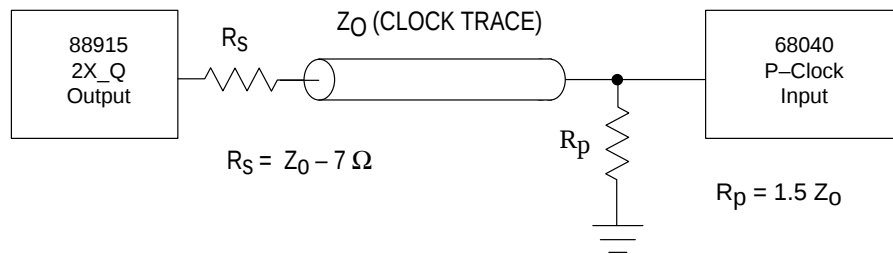

Figure 1. MC68040 P-Clock Input Termination Scheme
- These two specs (tRISE/FALL and tPULSE Width 2X_Q output) guarantee that the MC88915 meets the 25 MHz 68040 P-Clock input specification (at 50 MHz). For these two specs to be guaranteed by Motorola, the termination scheme shown below in Figure 1 must be used.